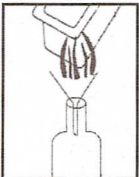

Fig. 7
1. Make sure the oil has cooled (approximately 2 hours) and then empty the oil from the oil reservoir into another container or bottle. (Fig. 7)